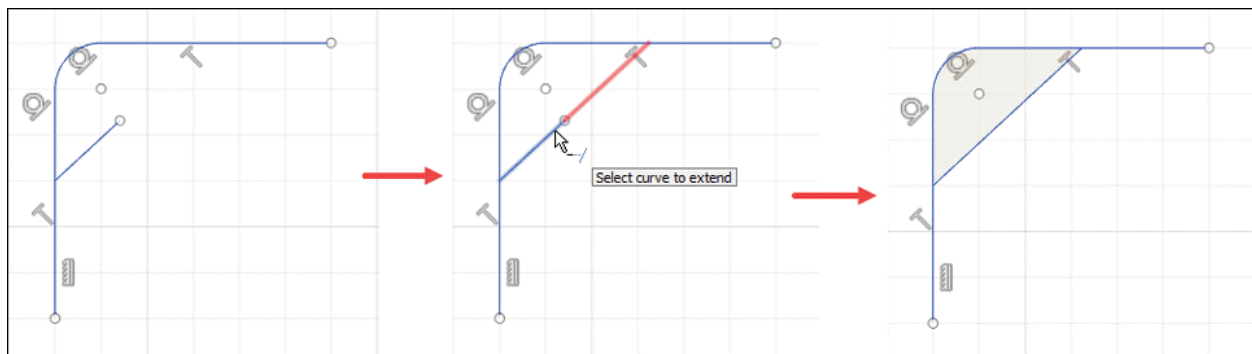

Figure-81. Procedure of extend tool
- Click on the entity if the preview is as per your requirement. Figure-81 shows the process of extending entities.